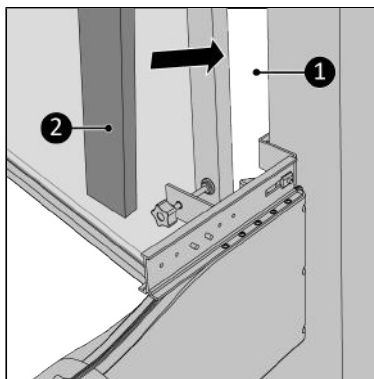

Figure 66.
16. Screw the clamping screw carefully to the window frame (Figure 66, pos. 1).
17. Fill up the open spaces (Figure 66, pos. 1) with the delivered isolation foam (Figure 66, pos. 2), cut the foam if necessary\*.